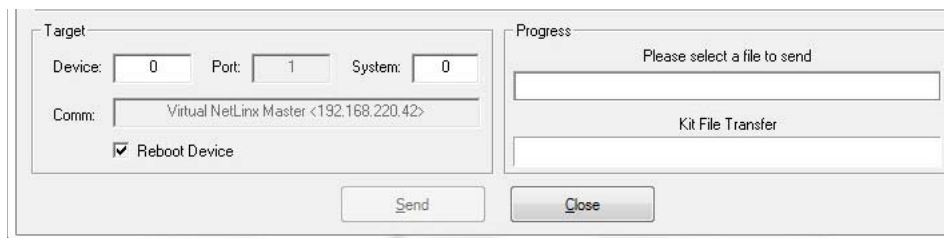

FIG. 31 Send to NetLink Device dialog window
3. Select **Tools > Firmware Transfers > Send to NetLink Device** from the main menu to open the *Send to NetLink Device* dialog (FIG. 31). Verify that the panel's System and Device number values match those values listed within the System folder in the **Online Tree** tab of the Workspace window.